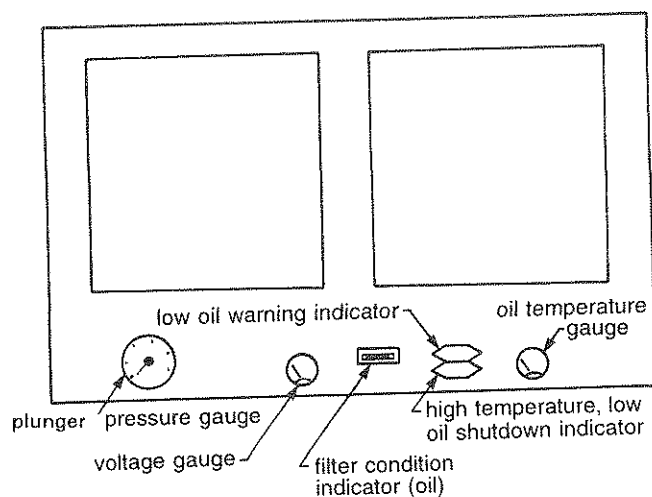

Fig. 49
6. Read the main system pressure on the right side of the front gauge panel of the baler as illustrated in Fig 49. It should read approximately 6000 p.s.i. for balers with serial numbers 168 and below. For balers number 169 and above, main system pressure should read 6500 p.s.i.